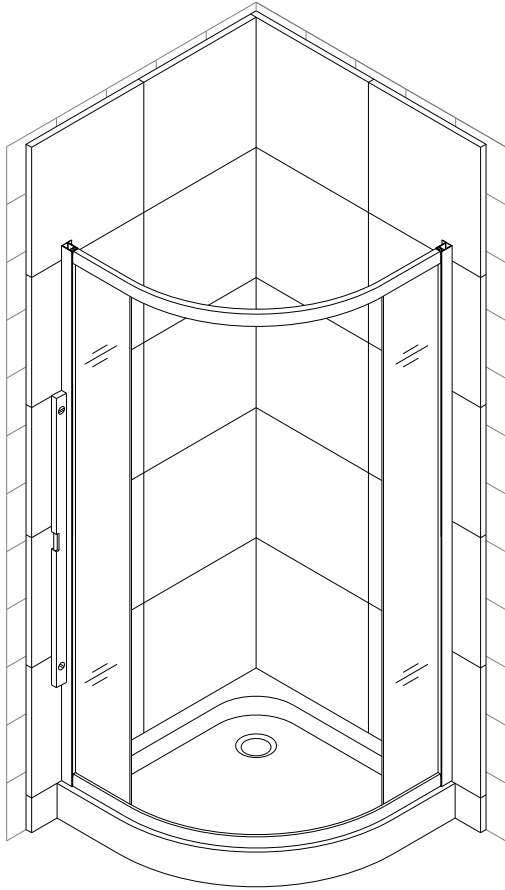
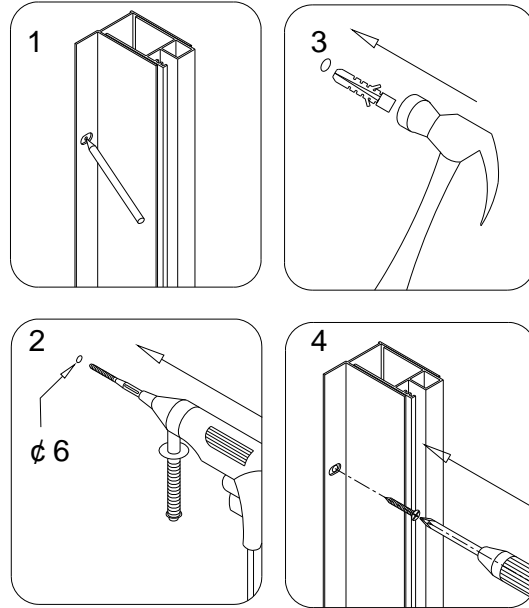

Fig 5
Fig 6
5. Carry the assembled unit on the top of tray; push it against wall. You can adjust position of the shower by pulling it partially out of the wall profile. Now adjust one of wall profiles vertically using level and mark holes on the wall. Using help to hold this profile in the right position, level another profile and mark holes. Gently move the assembled unit on the side, drill holes into the wall, insert Wall anchors (15). Place the whole shower assembly on the tray and attach it to the wall using **Round head screws ST4.2x30 screws (10)**. See Fig 5 and Fig 6 for details.